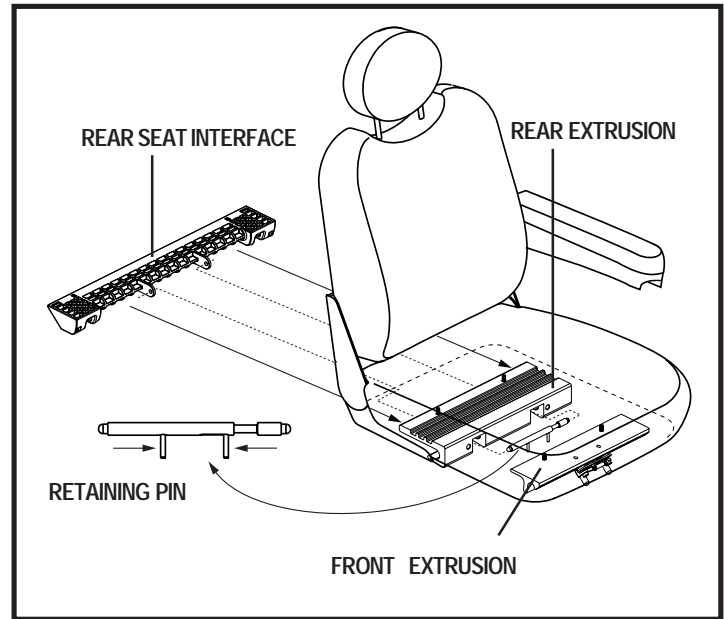

Figure 11. Assembly View (Rear Seat Interface Installation)
2. Slide the rear seat interface into the rear extrusion. See figure 11.